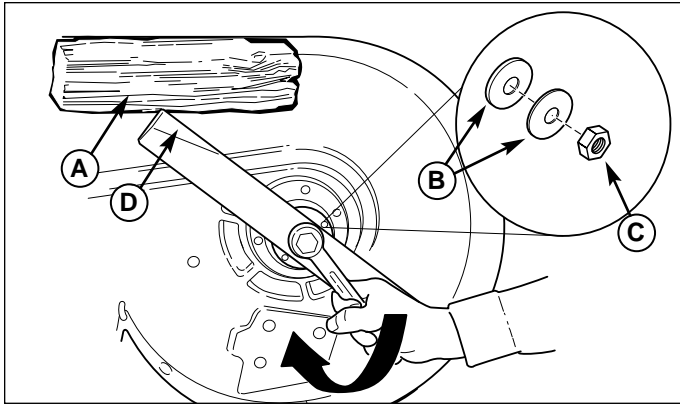

Figure 3. Blade Installation
3. Remove the blade nut (C, Figure 3), spring washers (B), and blade (D).
4. Reinstall the new blades with the lift wings (D, Figure 3) pointing up toward the mower deck as shown.
5. Reinstall the spring washers (B, Figure 3) and blade nut (C). Use a wooden block (A) to prevent blade rotation while tightening the blade nut (C) to 70-80 ft. lbs. (95-108 Nm). Turn blade nut clockwise to tighten.